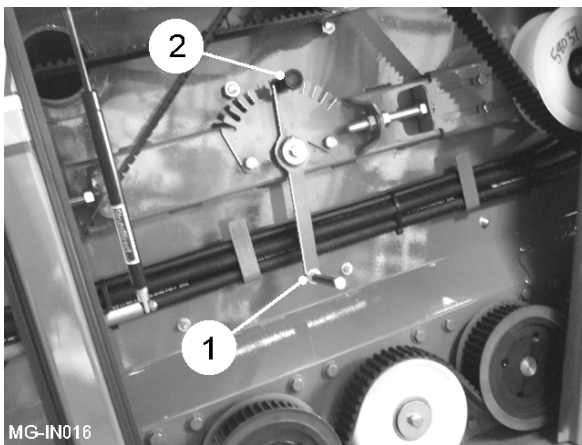

Fig 10
The clod mat consists of two rows of heavy duty rubber blocks mounted on pivoting rails suspended above the star bed. The blocks hold down clods onto the stars to assist the crumbling effect. On manual adjustment machines, the angle of the blocks is set using the adjuster arm (item 1, fig 10) and index plunger (item 2, fig 10) behind the LH centre guard. An optional linear actuator can be fitted allowing adjustment from the in-cab control box. The angle of one row of blocks in relation to the other can be changed by adjusting the link rod behind the RH centre guard.